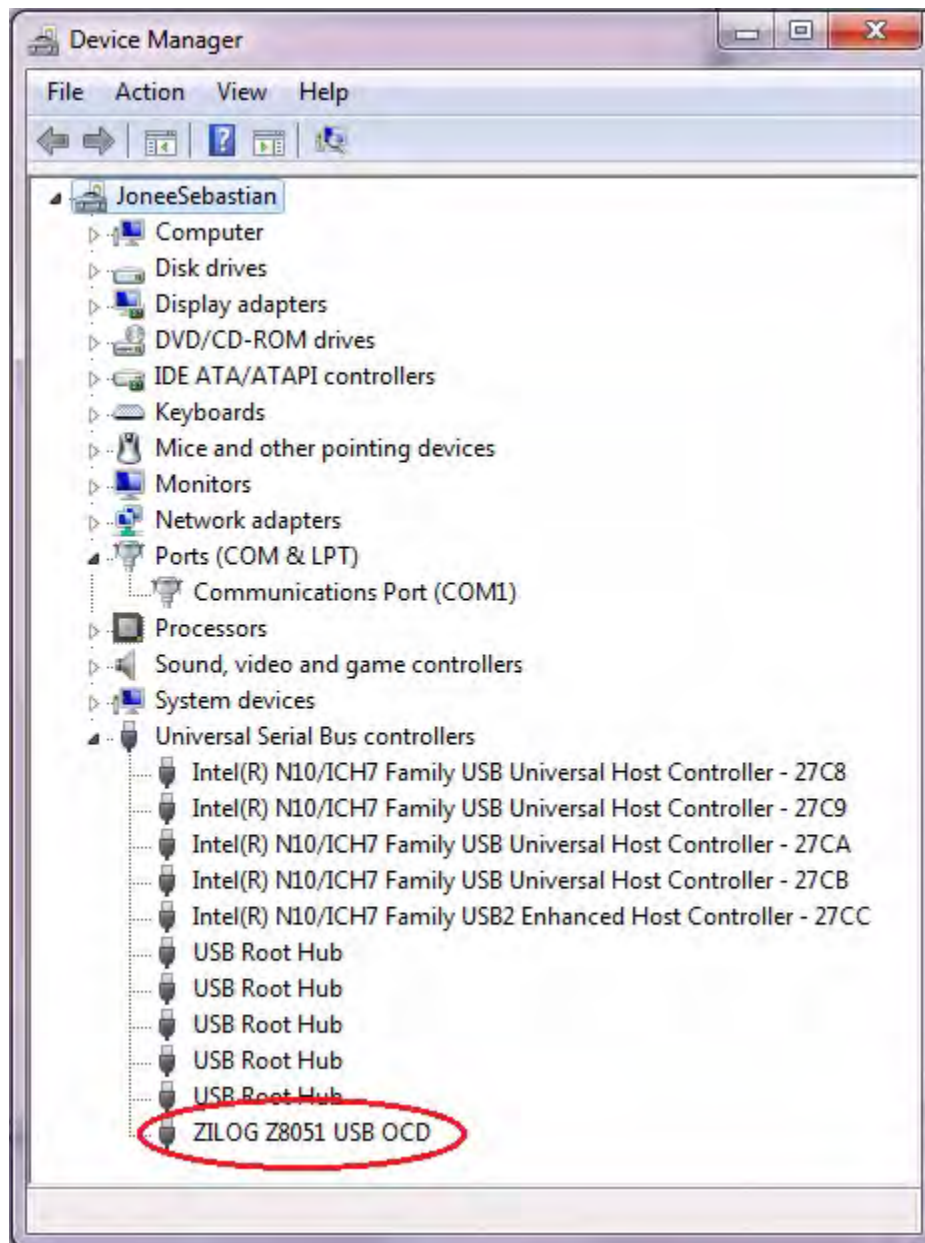

Figure 29. Device Manager Dialog, Windows 7
5. If *Zilog Z8051 USB OCD* appears in the Device Manager (as highlighted in Figure 29), the OCD driver software has been successfully installed.